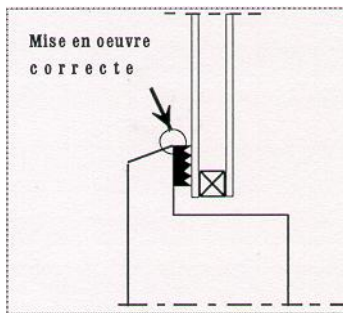

Figure 1
1. Remove the covering silicone paper and glue the strip in the rebate flush with the front edge starting in one of the upper corners (figure 1).
4. Remove the covering silicone paper and glue the strip on the beads flush with the top edge (figure 1). At both ends the strip should be cut 0,5 – 1,0 mm longer than the bead.